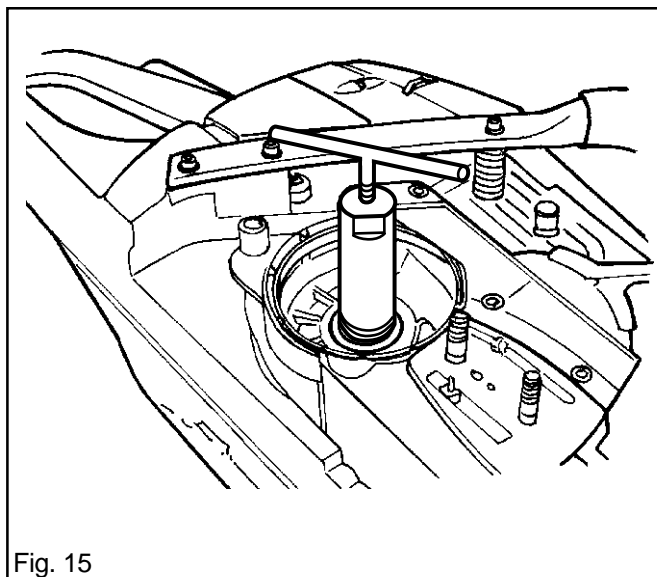

Fig. 15
2. Screw the relevant dismantling tool into the seal and pull it out. See pos 12 or 13 on page 6 and 7 of dismantling tool. See also fig. 15.